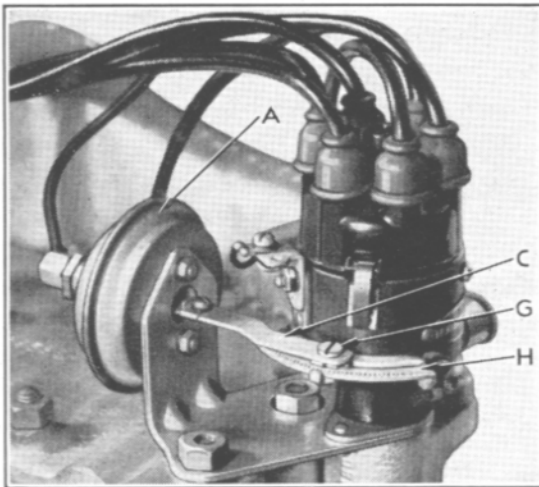
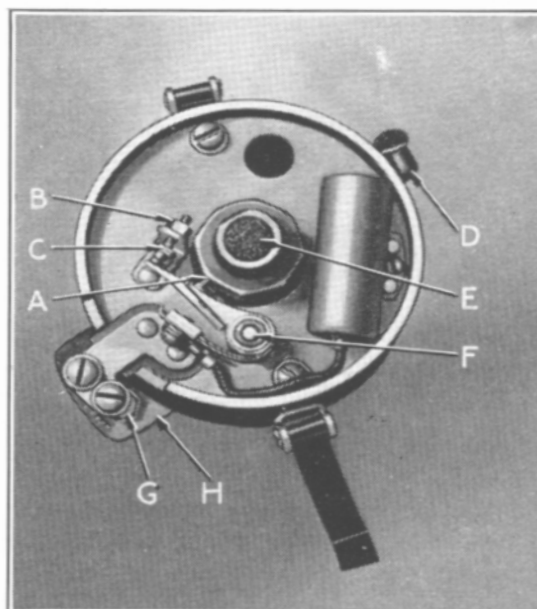

Figure 26
Figure 29
The distributor, Fig. 26, incorporates an automatic governor advance and in addition a diaphragm advance control (A), operated by engine vacuum.
The distributor rotation is *counter-clockwise*. Loosen the distributor advance arm screw (G), Fig. 26, and rotate the distributor housing *counter-clockwise* to the limit of the slot in quadrant (H). Take off the distributor cap and remove the central wire from the cap. Place the bare end 1/8" from the cylinder head. Turn on the ignition and rotate the distributor body *clockwise* slowly just until a spark jumps from the high tension wire to the cylinder head. Tighten screw (G), replace central cable in cap, and clamp cap on distributor.
The distributor, Fig. 29, is mounted at an angle on the right side of the engine near the center. It incorporates an automatic governor advance which mechanically advances the spark in direct proportion to engine speed.
Distributor rotation is *clockwise*. To set timing loosen clamp screw (G), Fig. 29, and rotate distributor housing *clockwise* to the limit of slot in clamping plate (H). Remove the central cable from the distributor cap and place the bare end $\frac{1}{8}$ inch from the intake manifold. Turn on the ignition and rotate the distributor body *counter-clockwise* slowly until a spark jumps from the high tension wire to the manifold. Tighten clamp screw (G), replace cable in cap and install cap on distributor.
To determine proper spark timing for these conditions, with engine at normal operating temperature, accelerate at full throttle from 8 miles per hour in high gear. A "ping" should be noted at 10 to 15 miles per hour. If no "ping" is heard, loosen the advance diaphragm screw (G), Fig. 26, on 6 cylinder models and rotate distributor body in a *clockwise* rotation one graduation mark at a time until the "ping" is heard. On 8 cylinder models, loosen clamp screw (G), Fig. 29, and rotate distributor body *counter-clockwise* one graduation mark at a time until "ping" is heard. *Under no circumstances, however, should the pointer on the rear engine support be more than 1 inch before the U.D.C. 1-6 / mark on 6 cylinder flywheels and $\frac{3}{4}$ inch before the U.D.C. 1-8 / mark on 8 cylinder flywheels.*